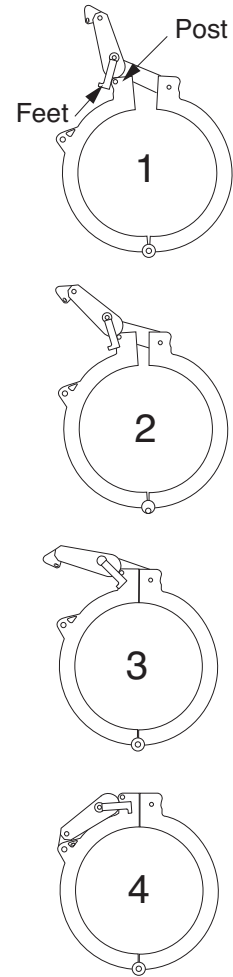

Figure 16
12. Install clamp around dome/base interface. Position feet of handle in front of the two posts and push down on the handle to pull the two halves of the clamp together. (Figure 16)